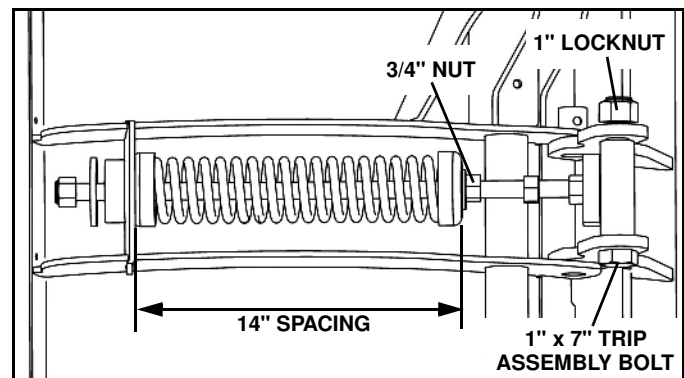

Figure 1-14
15. Install a 1" locknut on the trip bolt. Tighten the nut to remove all freeplay from the bolt, but still allow it to spin in the mounting holes and saddle. (See Figure 1-14)